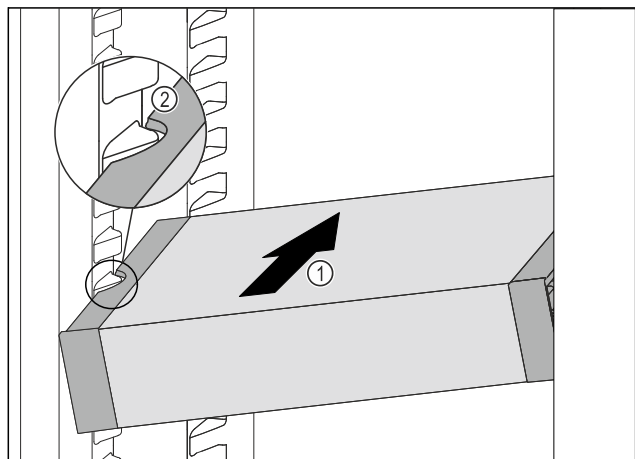

Fig. 98
- ▶ Insert the VarioSafe into the fridge section at an angle Fig. 98 (1) until the recesses in the side Fig. 98 (2) of the VarioSafe are at the level of the support rib in the fridge section.